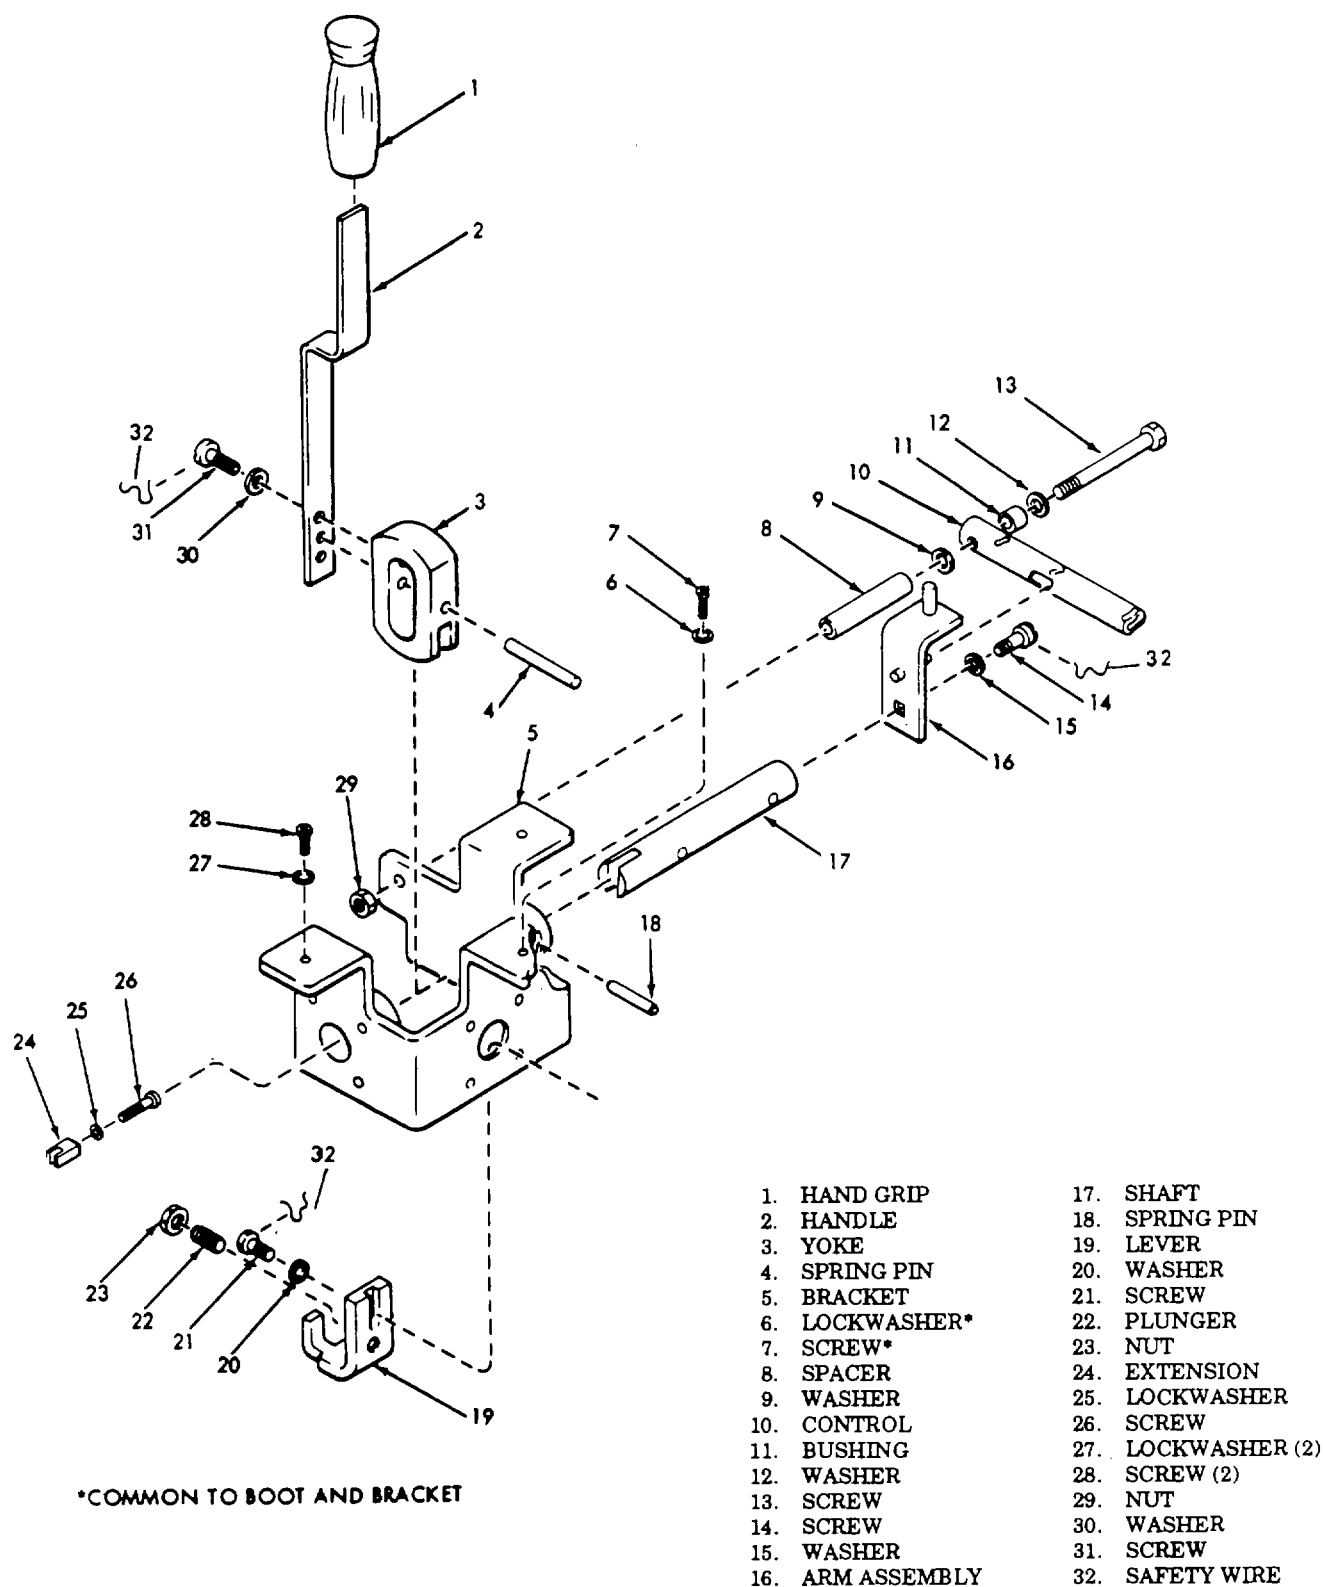

Figure 3-94. Hydraulic Control Console - Control Linkage Removal.
(5) Remove union (2) with packing (3) from roll control valve.
(6) Remove elbow (37) with associated parts (34, 35 and 36) from roll control valve.
(7) Remove elbow (32) with associated parts (29, 30 and 31) from roll control valve.
(8) Remove extension (24, fig. 3-94) from control valve.
(9) Disconnect lever from elevation control valve shaft. Refer to paragraph 3-60
a. Removal (fig. 3-94)
(1) Remove grip (1). Remove boot. Refer to paragraph 3-60
(3) Remove nut (20) from screw (36).
(4) Remove screw (36) with two washers (33), control (35), bushing (34) and spacer (32).
(5) Remove screw (31) and remove azimuth control handle (26) with grip (25), adapter (29) and seals (27 and 28).
(6) Remove nut (8) and spring pin (7) to remove handle (9), washer (10), and spring (11) from shaft (19).
(7) Remove screw (23) and washer (22) and remove elevation/roll control handle (21) from the control linkage yoke. Refer to figure 3-94 (8) Remove screw (15) and remove extension control handle (14) with grip (13).